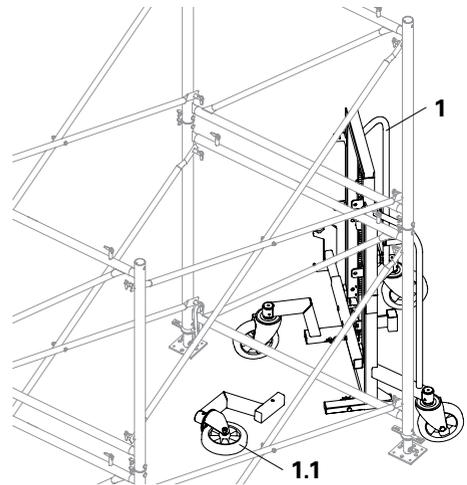

Fig. 26
1. Place the Trolley with Winch (1) in an inclined position to the PD 8 / PD 8 Eco.
3. Push the Trolley with Winch in an inclined position under the PD 8 / PD 8 Eco. (Fig. 26)